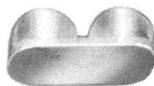

Fig. 5—KS-19479 L1 Guard
2.12 Test points for special or sensitive circuits are protected from connection to test connectors by inserting a KS-19478 L1 guard (Fig. 5) into its T and R test points.